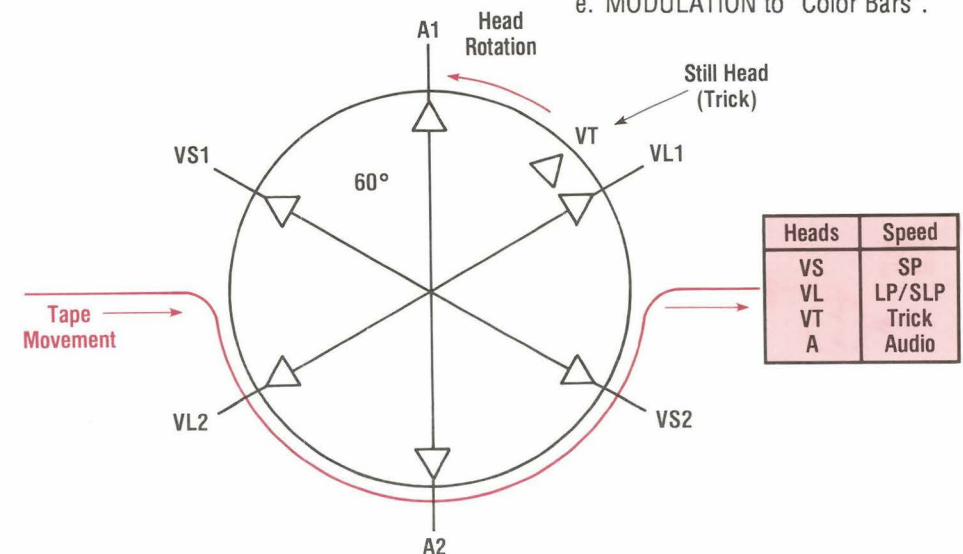

Fig. 6: 4-head VCRs select a different head pair based on tape speed.
VCRs that have four video heads still use only two heads to produce the picture. However, different head pairs are selected depending on the playback speed (Figure 6). One pair is used for the fastest playback speed (SP), while the other pair is used for the remaining speeds. A "head selector" chooses which head pair is used. Problems in the head selector may produce a bad head symptom. If the deck has an odd number of heads (three or five), the extra head is used to provide a clear picture during special features such as stop-action or scanning. This "special effects" or "trick" head is not used when playing a tape at normal speed.